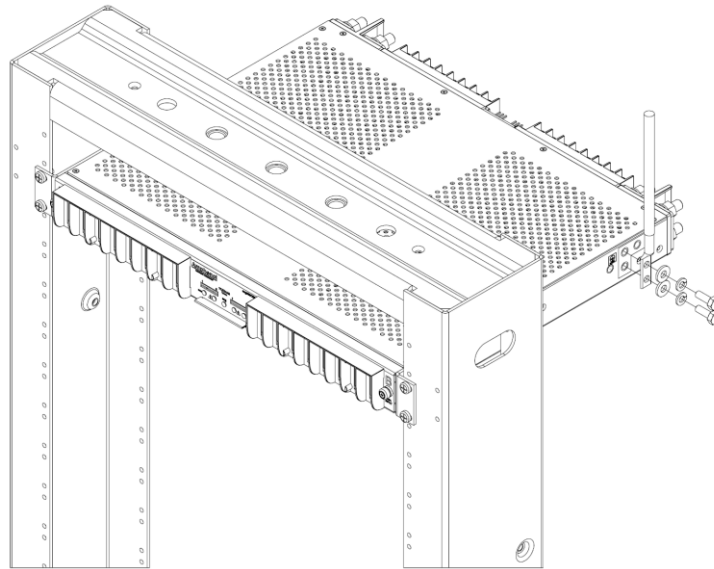

Fig. 2-6: Grounding Lug Connection
**ALERT!** Only use components and crimping tools approved by agencies or certifying bodies recognized in your country or region such as Underwriter's Laboratories (UL), TUV, etc.
11. If required, lightly coat antioxidant on lug and grounding surface on the side or bottom of the panel. Connect the lug using  $\frac{1}{4}$ -20 bolts, split washers and flat washers provided, as shown in Fig. 2-6.